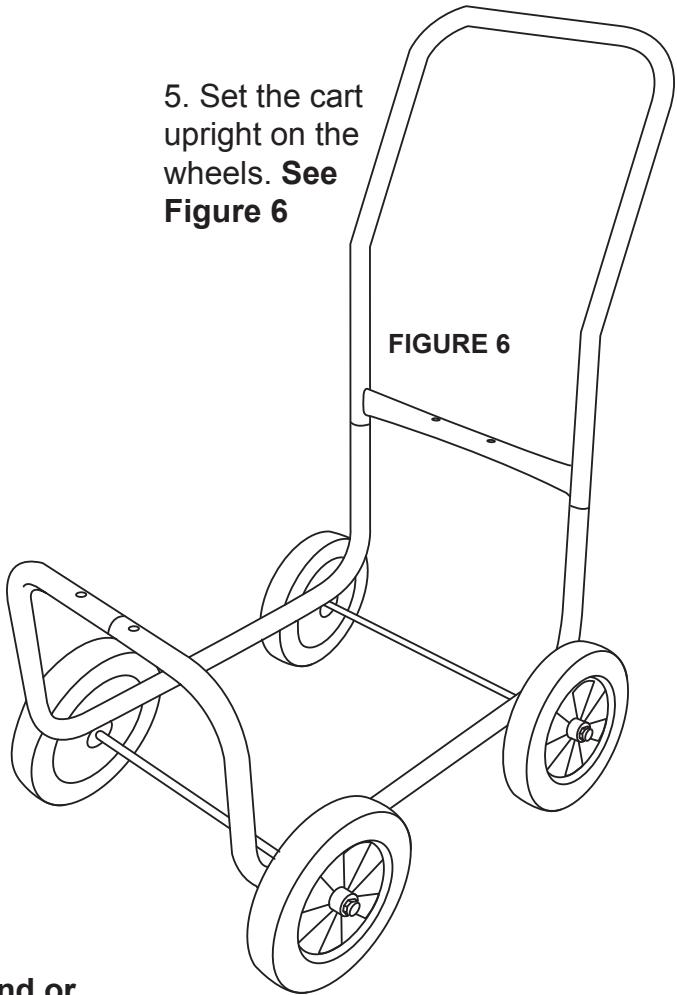

FIGURE 4
4. Place the wheel (C) over the axle. Place the axle washer (Q) over the thread and screw on axle nut (P) and tighten securely. Repeat for each remaining wheel. **See Figures 4 & 5**